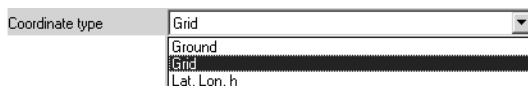

Figure 3-44. Coordinate Type List
- Select the Coordinate type (Figure 3-44).